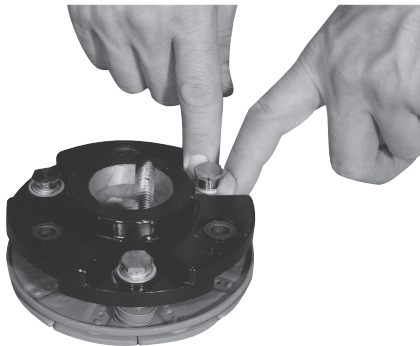

Figure 10
Step 6 Compress the retainers against the armature hub and check to see that the armature hub is held tightly to the armature bosses. Note: This position must not be disturbed during completion of assembly. (Figure 10)